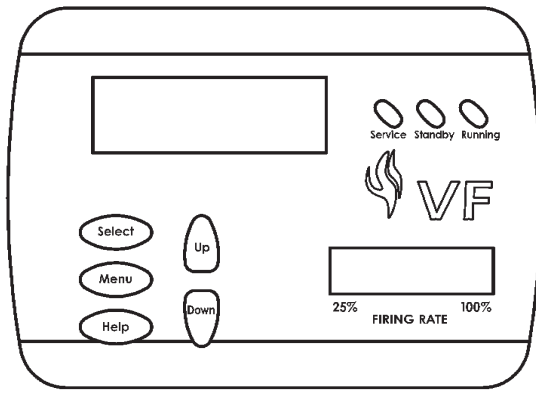

FIGURE 20. UIM, USER INTERFACE MODULE
- User Interface Module (UIM), see Figure 20.